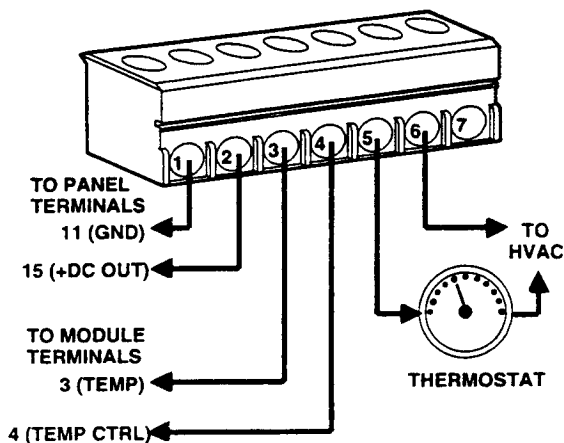

Figure 4. ESM Wiring Connections to CareTaker Plus
- 4) Connect wires as shown in Figure 4. Table 2 describes the wiring connections shown in Figure 4.